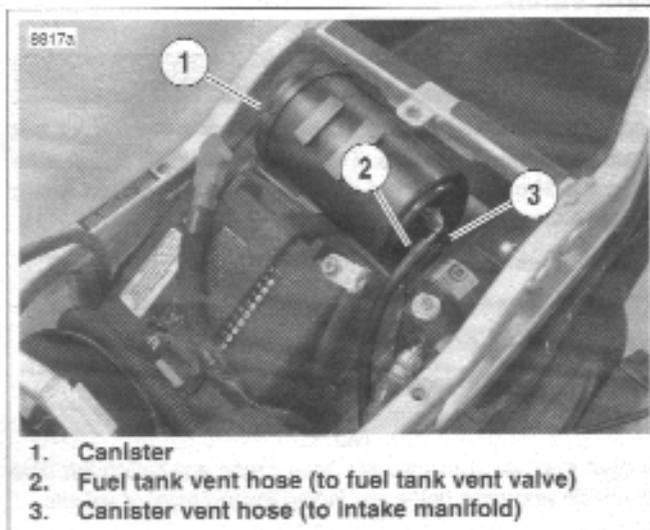
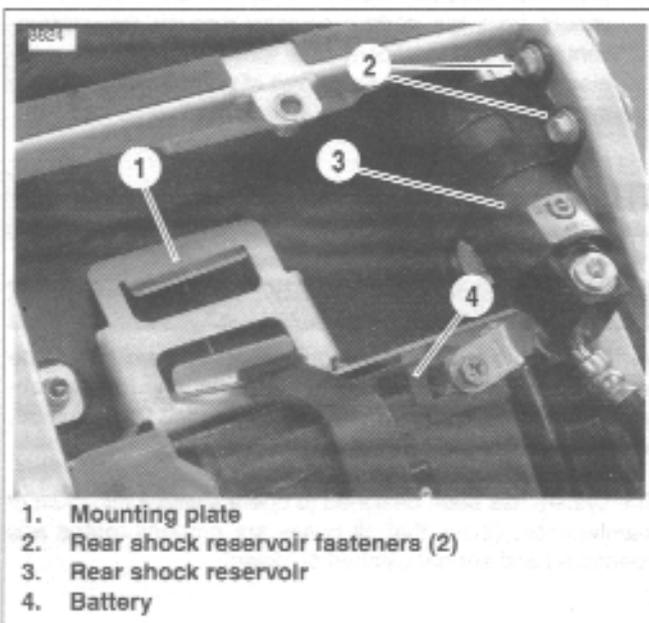

Figure 4-111. Carbon Canister Installation.
Figure 4-113. Carbon Canister Mounting
2. See Figure 4-111. The canister assembly mounts behind the battery in the tail section.
3. Label and disconnect the fuel tank vent hose (2) and canister vent hose (3) from the canister.
4. See Figure 4-113. Remove rear shock absorber reservoir fasteners (2). Move reservoir assembly away from canister.
5. Slide canister towards left side of vehicle to disengage from mounting plate (1).
2. See Figure 4-111. Attach fuel tank vent hose (2) to canister if disconnected.
1. See Figure 4-113. Slide canister into position on canister mounting plate (1).
2. Place rear shock reservoir assembly (3) into position.
3. See Figure 4-113. Install reservoir mounting fasteners (2). Tighten fasteners to 120-144 in-lbs (13.6-16.3 Nm).
4. See Figure 4-111. Connect two hoses to the canister. Make sure to push hoses all the way on to carbon canister fittings.